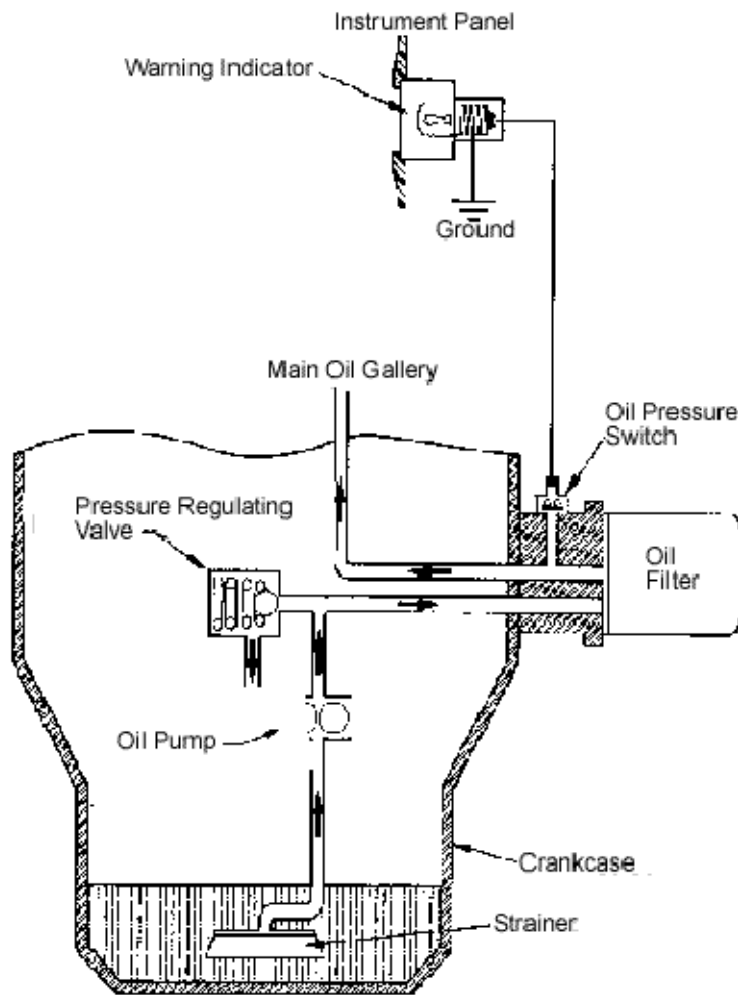

FIGURE 2
On some engines the filter is mounted in a position which could allow the oil in the filter to drain back to the crankcase when the engine is shut down. This would be the case for the filter shown in Figure 2 where the filter is horizontal and is above the level of the oil in the crankcase. Normally, it takes less than five (5) seconds for the pump to fill the filter after the